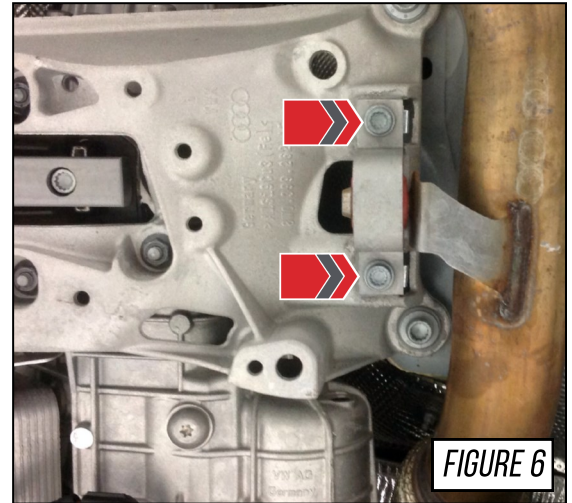

FIGURE 6
Remove the two (2) 10mm triple square bolts that hold the hanger bracket onto the cross brace; shown by the arrows in **Figure 6**.